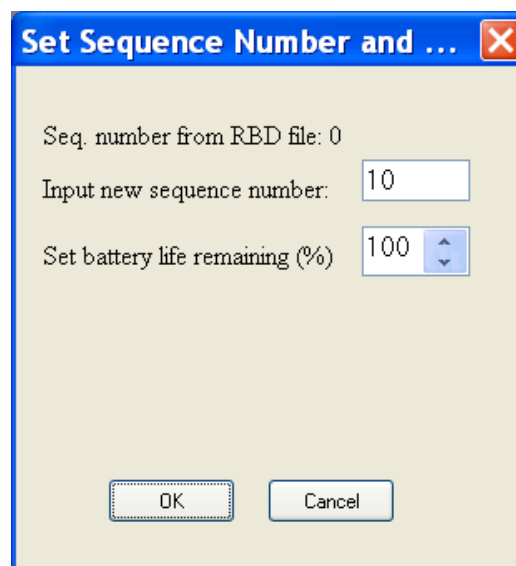

Figure A.3 Set Sequence Number
5. Insert the sequence number and remaining battery life (see figure A.3). Note that if the sequence number is set too low, data will be overwritten.